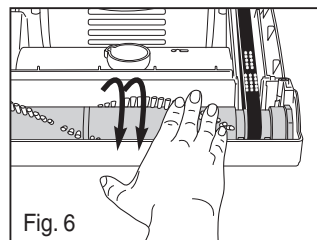

Fig. 6
- 6) Rotate brush roll 2 turns to center belt. (Fig. 6).